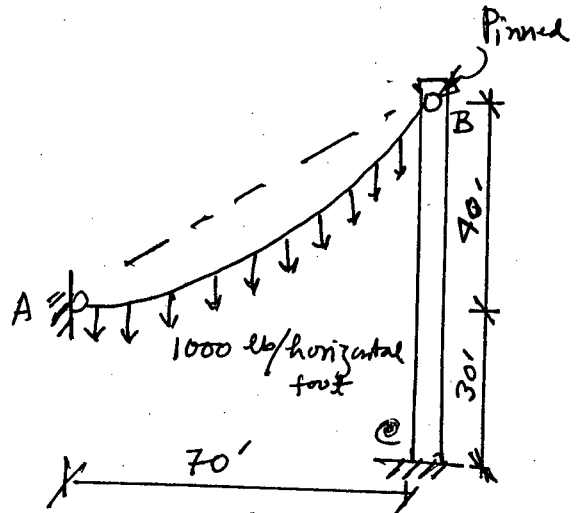

Fig. 12
13. For the cable shown in Fig. 12 (21)